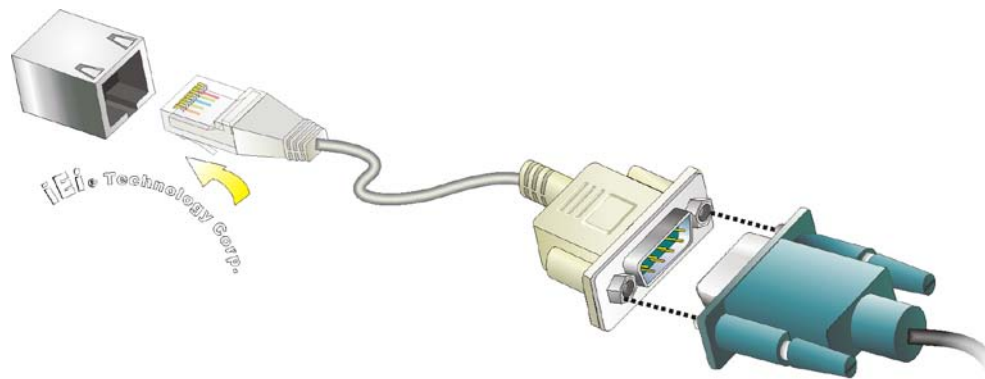

Figure 3-23: RJ-45 RS-232 Serial Device Connection
Step 2: Insert the RJ-45 connector. Insert the RJ-45 connector on the RJ-45 to DB-9 COM port cable to one of the RJ-45 RS-232 connectors on the TANK-720. See **Figure 3-23.**